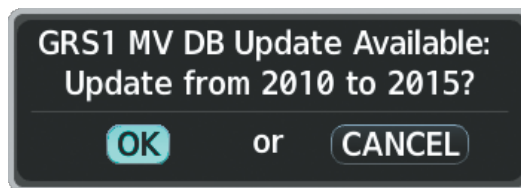
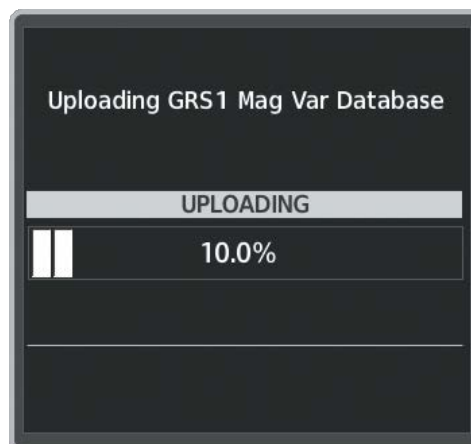

Figure B-14 GRS1 Magnetic Field Variation Database Update Prompt
Figure B-15 Uploading Database to GRS1
A copy of the current magnetic field variation database (MV DB) is included with the navigation database. At startup, the system compares this version of the MV DB with that presently being used by each AHRS (GRS1 and GRS2). If the system determines the MV DB needs to be updated, a prompt is displayed on the MFD, as shown in Figure B-14. Note, in the following example, GRS1 is the first AHRS to indicate an update is available. In actuality, this is dependent on which AHRS is the first to report status to the system. GRS2 may be displayed before GRS1. The order is not important, only that both AHRS be updated.
- 1) With 'OK' highlighted, as seen in Figure B-14, press the **ENT** Key on the MFD. A progress monitor is displayed as shown in Figure B-15.